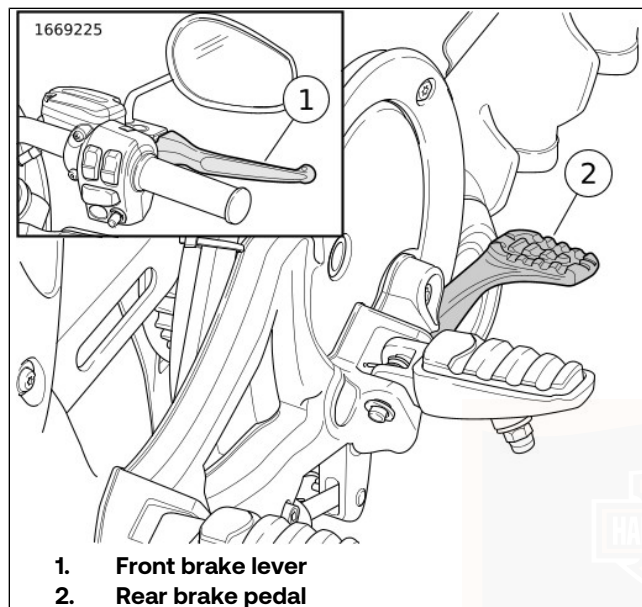

Figure 49. Brake Controls
See Figure 49. The front brake hand lever (1) controls the front wheel brake. The lever is on the right handlebar. Operate the hand lever with the fingers of the right hand.
See Figure 49. The rear brake pedal (2) controls the rear wheel brake. The pedal is on the right side. Operate the rear brake pedal with the right foot.